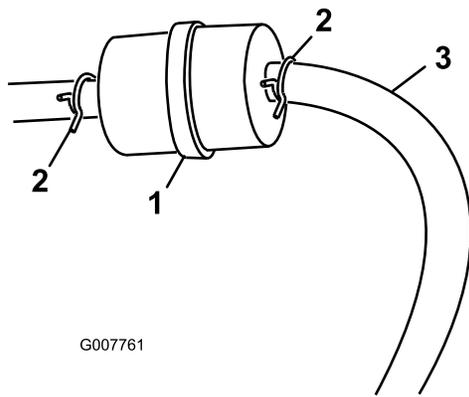

Figure 24
3. Squeeze the ends of the hose clamps together and slide them away from the filter (Figure 24).
5. Install a new filter and move the hose clamps close to the filter (Figure 24).
3. Loosen the hose clamp at the fuel filter and slide it up the fuel line away from the fuel filter (Figure 24).
4. Disconnect the fuel line from the fuel filter (Figure 24).
Note: Allow gasoline to drain into a fuel container can or drain pan (Figure 24).
5. Install the fuel line onto the fuel filter. Slide the hose clamp close to the fuel filter to secure the fuel line (Figure 24).